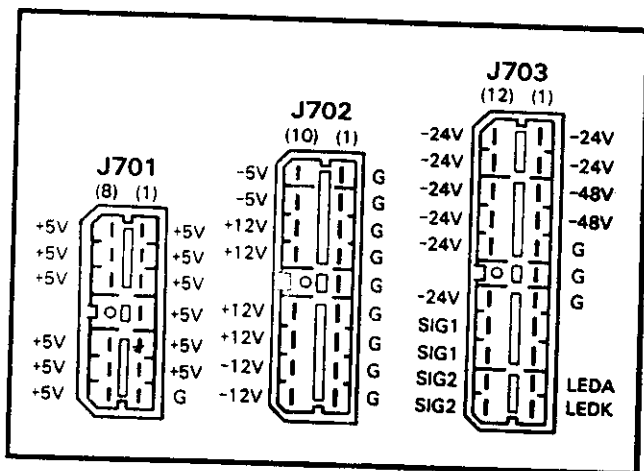

FIGURE 15—FPSA-S PINS
- 7) Plug the expansion power supply "J" connectors into their corresponding numbered receptacles on the power supply (Figure 15).
- 12) Using a voltmeter, perform a static check of the voltages on connectors **J701**, **J702**, and **J703** of the expansion power supply. (Refer to Figure 15).